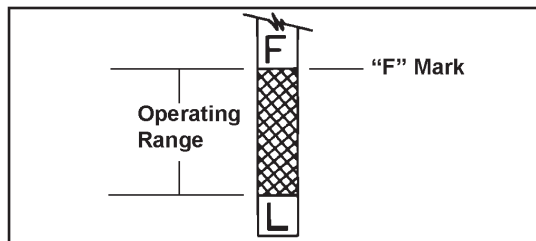

Figure 7. Oil Level Dipstick.
4. Remove the dipstick and check the oil level. The oil level should be up to, but not over, the "F" mark on the dipstick. See Figure 7.